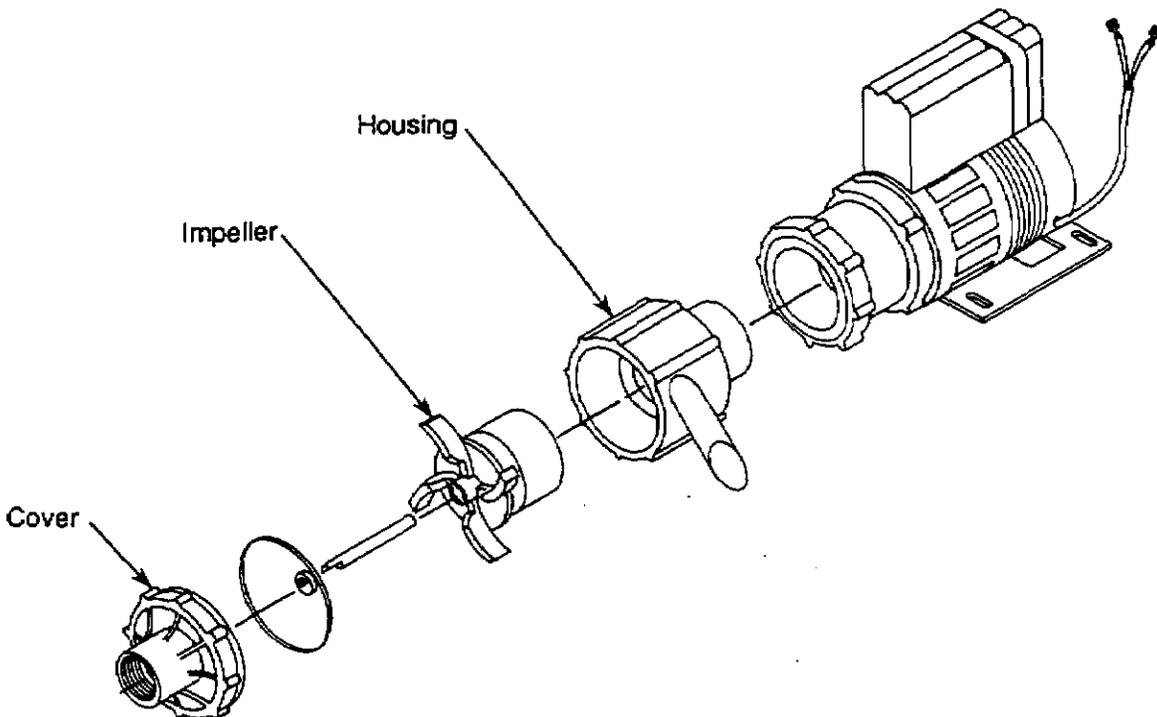

Figure 3-5. Impeller Blade
3.12 Impeller Blade (See figure 3-5.)
2. Remove impeller blade from the housing. (See figure 3-5.)